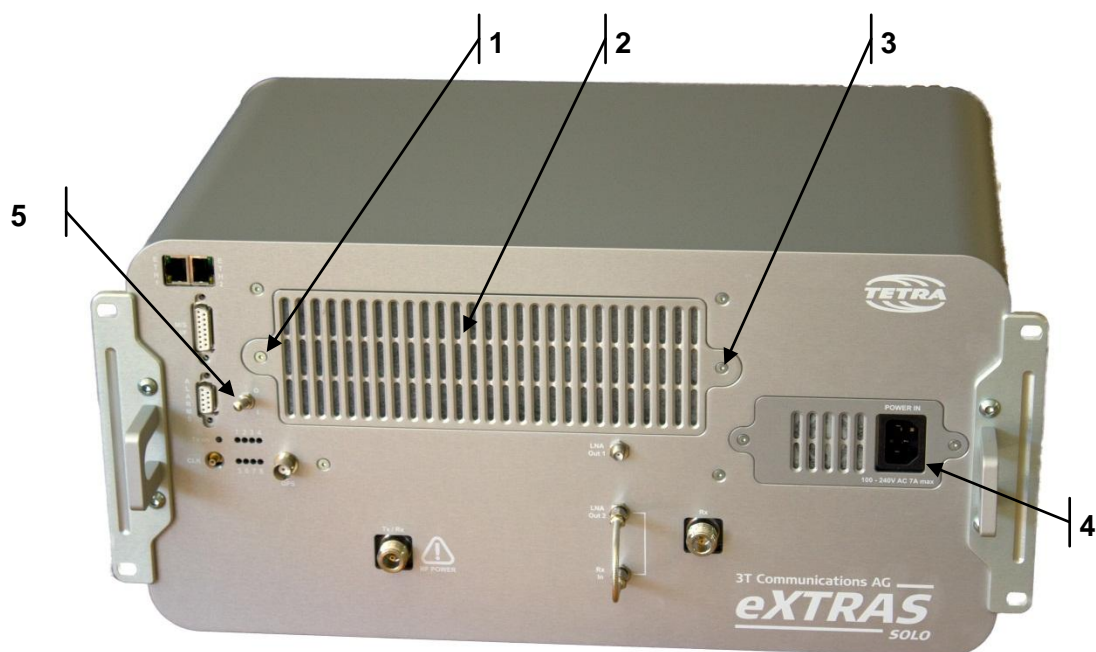

Fig. 7-4: Transceiver Ventilation Grid
2. Power OFF (5, Fig. 7-4) the eXTRAS SOLO and disconnect the power cable (4, Fig. 7-4).
7. Reconnect the power cable (4, Fig. 7-4) to the eXTRAS SOLO.
8. Power ON (5, Fig. 7-4) and check the proper operation of the eXTRAS SOLO with the LEDs (see section 3.4).